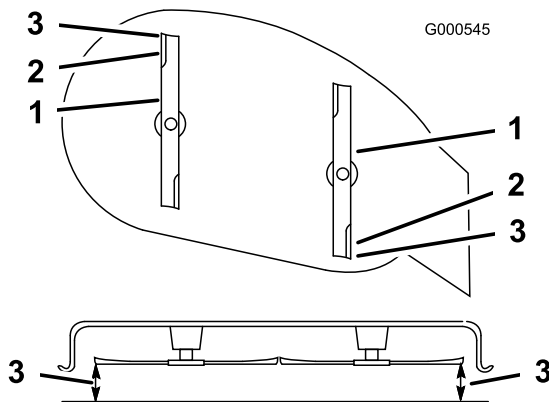

Figure 52
- Set the height-of-cut at position **D** [3 inch (76 mm)] and carefully rotate the blades so they are facing front to rear (Figure 52).
6. Measure from the tip of the front blade to the flat surface and the tip of the rear blade to the flat surface (Figure 52). If the front blade tip is not 1/16-5/16 inch (1.6-7.9 mm) lower than the rear blade tip, adjust the front locknut.
9. After adjustment, check the front-to-rear slope again. Continue adjusting the nut until the front blade tip is 1/16-5/16 inch (1.6-7.9 mm) lower than the rear blade tip (Figure 52).